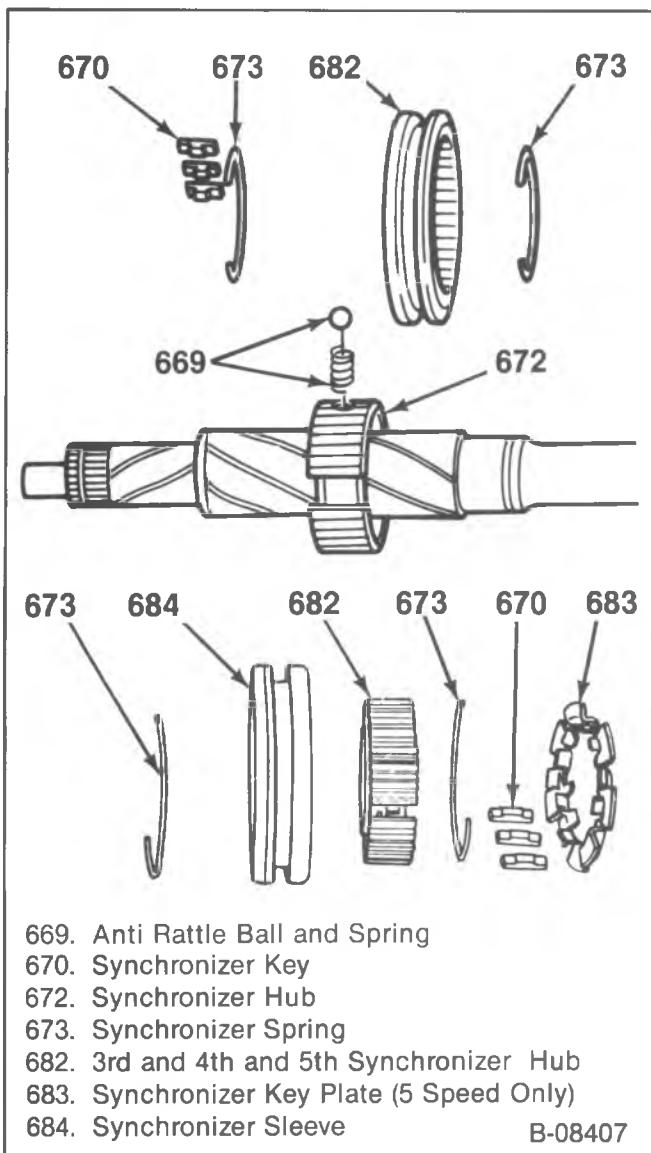

Figure 130—Synchronizer Components
- 9. 1st and 2nd speed synchronizer sleeve (674), (figure 130).
- Do not lose the antirattle ball and spring (669), (5 speed only).
10. Synchronizers (630 and 662), (figure 130).
- 2. 1st and 2nd speed synchronizer sleeve (674), (figure 130).
- Hold the antirattle ball and spring (669) in the hub, (5 speed only).
- 3. Slide the 2nd speed blocker ring (668) onto the mainshaft.
- 4. Slide the 2nd speed gear (667) on with the cone into the blocker ring.
- 5. 2nd speed gear thrust washer (666) and a new snap ring.
- 6. Slide the 1st speed blocker ring (675) onto the mainshaft.